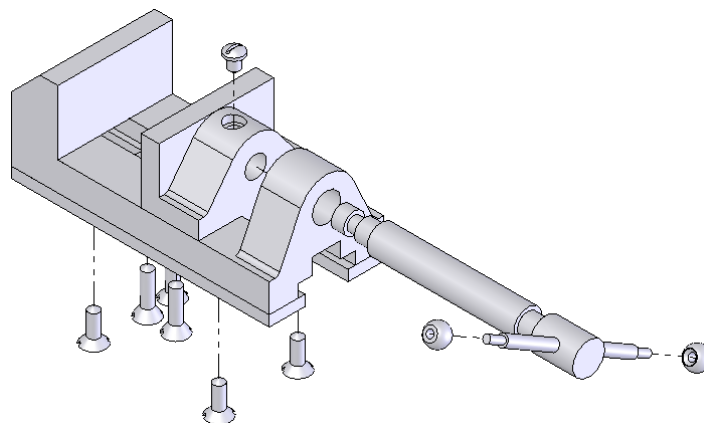

Figure 12-57 Exploded view of the assembly with explode lines
- b. Create the exploded state of the Bench vice assembly, refer to Figure 12-57.
1. Open the Bench Vice assembly and create the exploded state and the explode lines as shown in Figure 12-57. It is recommended that whenever you create an exploded state of